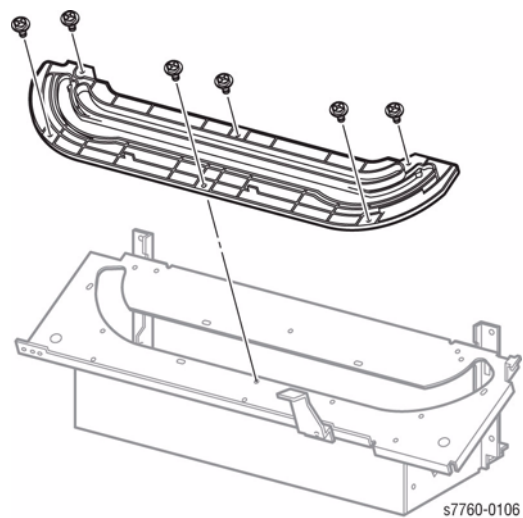

Figure 2 Removing Stapler Rail
4. Remove the 6 screws securing the Stapler Rail and remove the Rail (Figure 2).